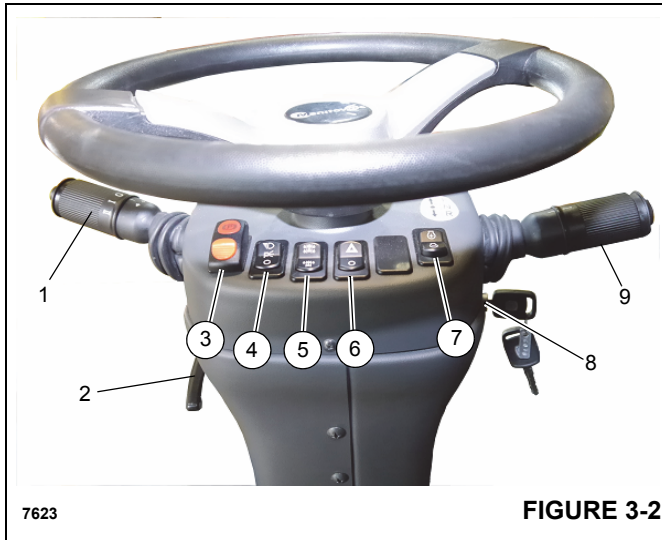

FIGURE 3-2
Turn Signal Lever and Windshield Wiper/washer Controls (1) Figure 3-2 are located on left side of steering column. Pushing turn signal lever down causes left front and left rear turn signals to flash. Pushing turn signal lever up causes right front and right rear turn signals to flash.
The steering control column can be rotated rearward approximately 30° and raised approximately 60 mm (2.3 in). Rotate control lever (2) Figure 3-2 down to lock steering
Park Brake Control Switch (3) Figure 3-2 is located on front of steering column. This two-position rocker switch (ON/OFF) is used to apply and release the parking brake on the drive line. The red Park Brake Indicator light on the display is illuminated when pressure switch in the brake release system is activated and brake is applied.
The Headlights Switch (4) Figure 3-2 is located on the front of the steering column. This three-position rocker switch (OFF/Park/Headlight) controls operation of the instrument lights, switch LED's, and the marker lights on the front, rear, and side of the crane. The switch is illuminated when the key is in the ON or Start position.
Drive Axle Selector Switch (5) Figure 3-2 is located on front of the steering column and is illuminated when key is in the ON or Start position. This two-position rocker switch is used to select two-wheel drive (high range) or four-wheel drive (low range).
Hazard Lights Switch (6) Figure 3-2 is located on front of the steering column and is a two-position rocker switch (ON/OFF). When switch is positioned ON, four turn signal lights and turn signal indicator lights on steering column flash at the same time.
The Increment/Decrement Switch (7) (Figure 3-2) is a three position momentary rocker switch with center maintained position being off. Use this switch to adjust engine speed (RPM). Press top or bottom of the Increment/Decrement Switch to increase or decrease low engine idle.